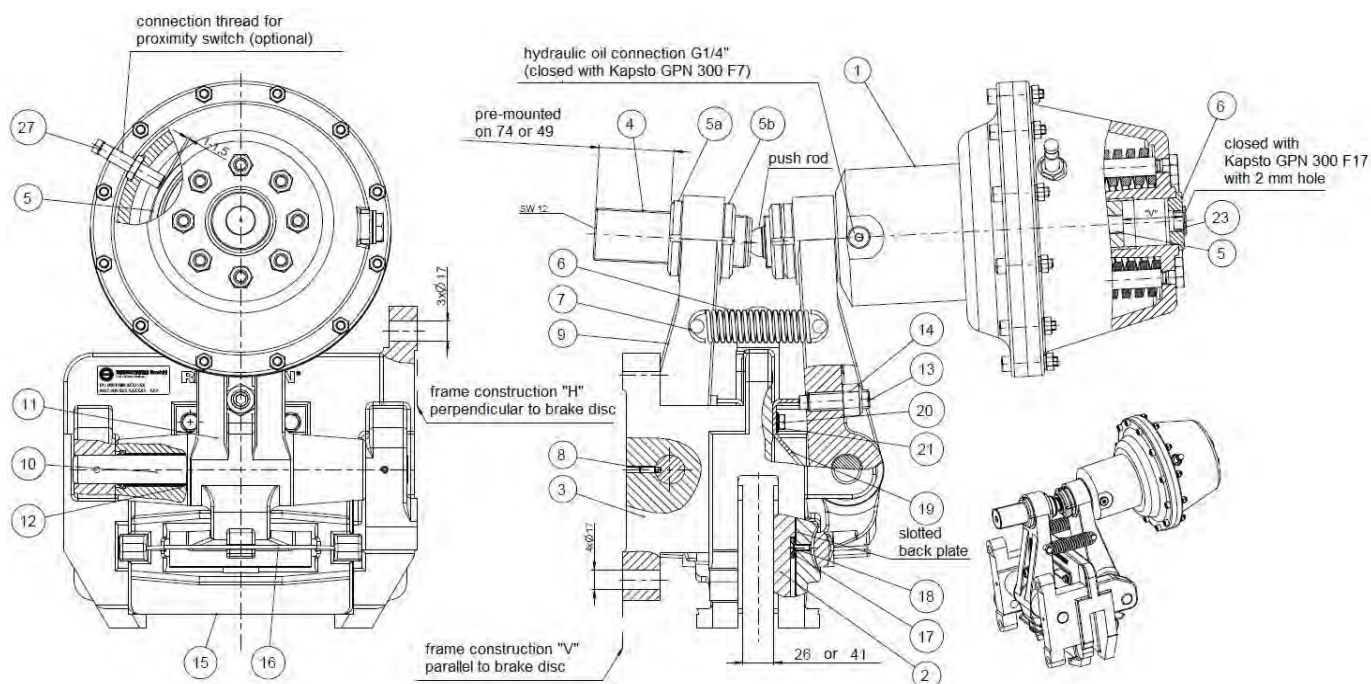

Fig. 3.1
- the DU 060 FHM, brake chamber mounted on the right (see Fig. 3.1 in Section 3).
Remove the plastic protecting cap (Fig. 3.1, pos. 23).
Turn the screw into the thread from the spring plate (Fig. 3.1, pos. 5) until the brake is open.
- Turn the two M16 threaded pins (Fig. 3.1 pos. 13) counter-clockwise, approx 2 revolutions.
- Loosen the groove nut (Fig. 3.1, pos. 5b) and turn it back in the direction of the end of the support bolt.
- Set the total gap between the two brake pads and the brake disc with the aid of the groove nut (Fig. 3.1, pos. 5a).
- Turn the groove nut (Fig. 3.1, pos. 5b) in place and tighten both groove nuts firmly.
In the support bolt (Fig. 3.1, pos. 4) is in the face a hexagon socket SW 12. With a corresponding hexagon key can the support bolts be kept.
Thus the gap must be adjusted so that the brake pads are equidistant from the brake disc on both sides with the aid of the threaded pins (Fig. 3.1, pos. 13):
- Use the threaded pin (Fig. 3.1, pos. 13) that is pressed against the sheet metal bracket due to the tipping force (Fig. 3.1, pos. 19).